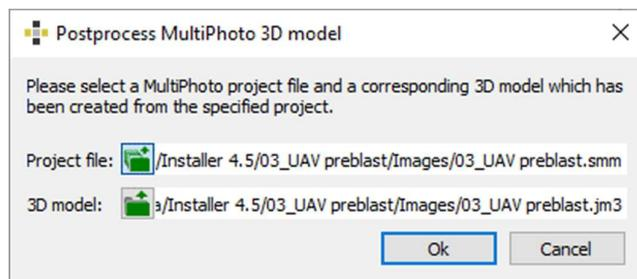

Figure 2: Loading Project File
3. Load the ".smm" and the corresponding ".jm3x" file (Figure 2). The *Project File* and the 3D model is loaded and the software automatically switches to the *3D Model* window.